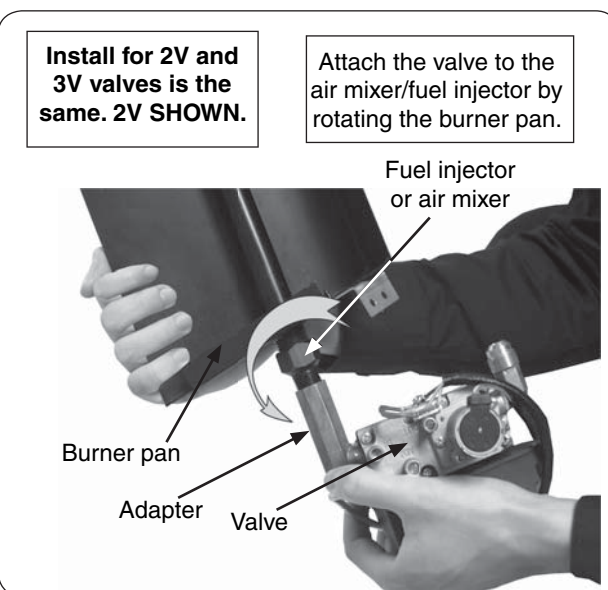

Fig. 7-2
2. Attach the adapter (pre-assembled to valve) to the fuel injector or air mixer by screwing the pan onto the adapter (Fig. 7-2). Take care not to damage the attached pilot assembly when rotating the burner pan. Be sure all connections are tight.